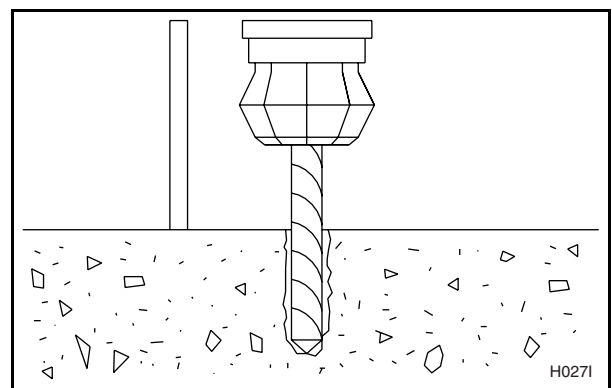

Figure 17
5. Drill the holes to the set depth. See Figure 17.